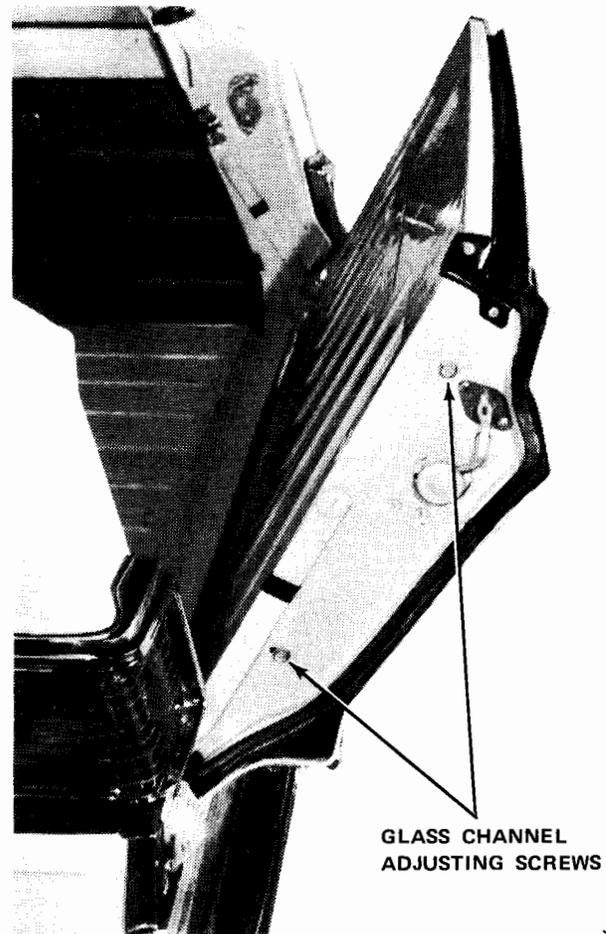

Fig. 16-2 Glass Channel Adjustment
(1) If adjustment is necessary, loosen two capscrews on either side panel of the tailgate (fig. 16-2).
(2) Raise and lower glass several times with tailgate in the closed position. This will align the glass with the channel.
(3) Open tailgate slightly and tighten adjusting screws with tailgate in vertical position.